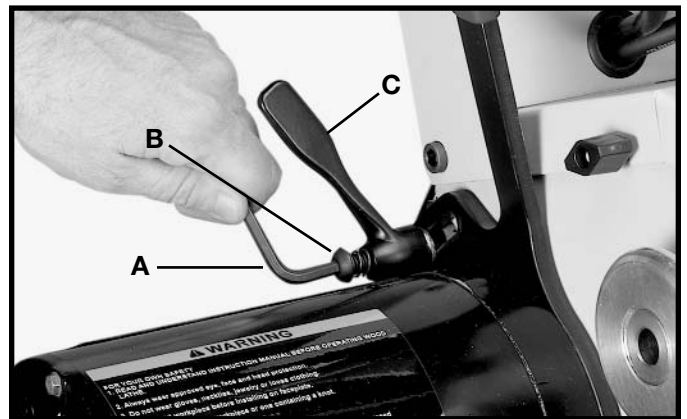

Fig. 72
2. Use a 7/32 inch Allen wrench (A) Fig. 72 to remove screw (B) Fig. 72 from locking handle. Remove locking handle (C).